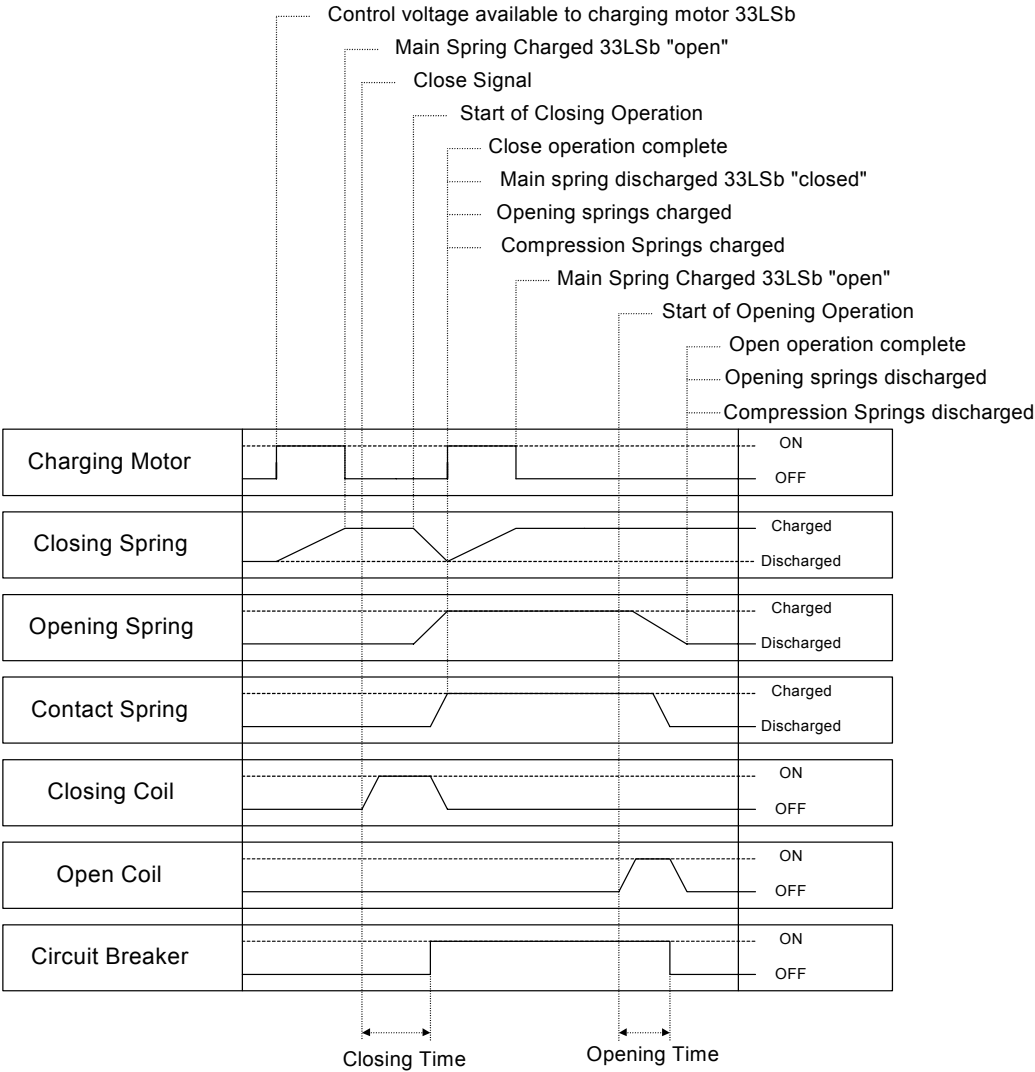

Figure 3: Sequence of Operation
ADVAC™ circuit breakers are available with two control packages. The standard package (see Appendix D) includes charge, close, and open functions, and 4a and 4b auxiliary contacts for customer use. The optional package (see Appendix D) adds to the standard package 5a and 4b auxiliary contacts for customer use as well as an optional second open coil and/or under voltage (UV) open/trip device if required. Refer to wiring diagrams in Appendix D and Figure 3: Sequence of Operation.